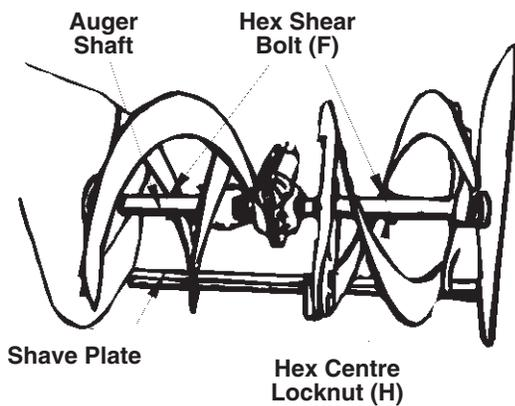

FIGURE 3.
1. The augers are secured to the spiral shaft with two shear bolts and hex locknuts. See figure 3. A direct impact of an object will usually cause the shear bolts to shear however, if you ingest an object between the augers/impellers and housing you may cause damage without shearing bolts. Keep clear of foreign objects.